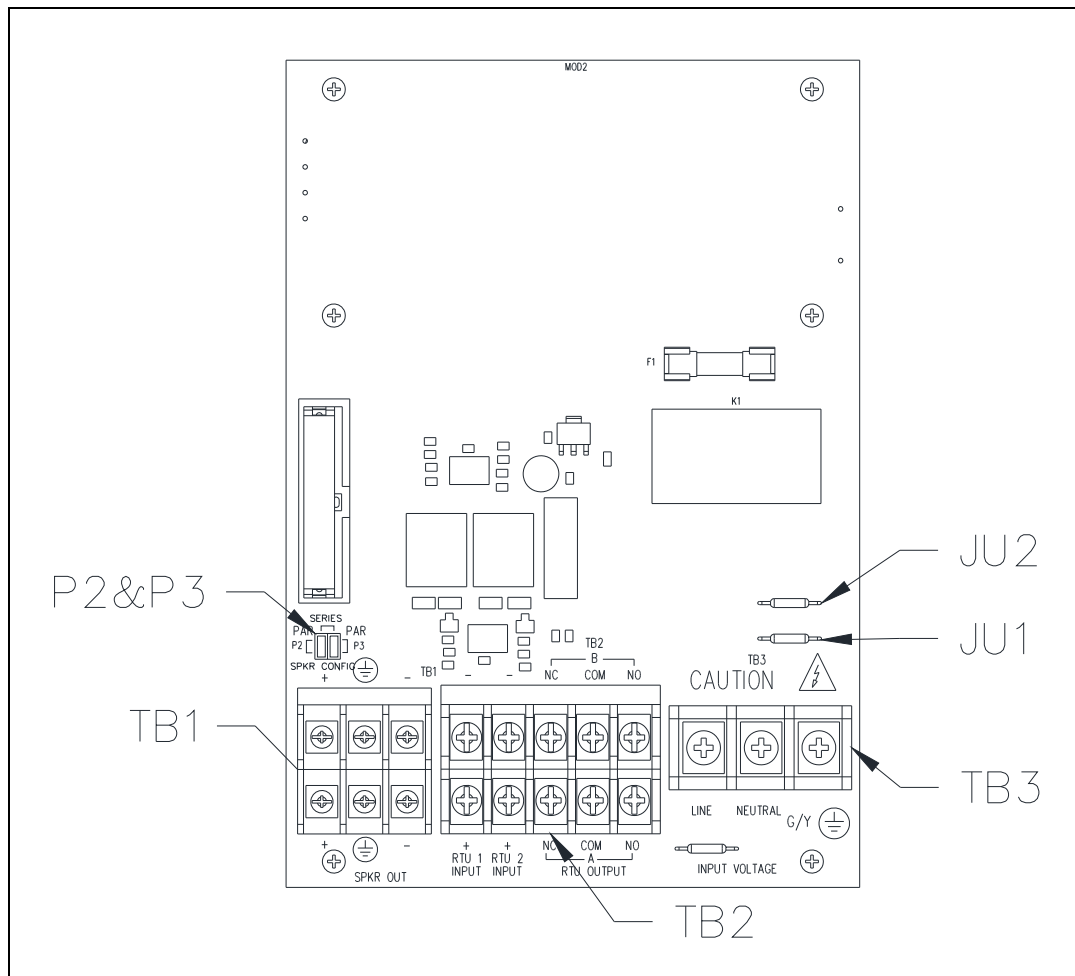
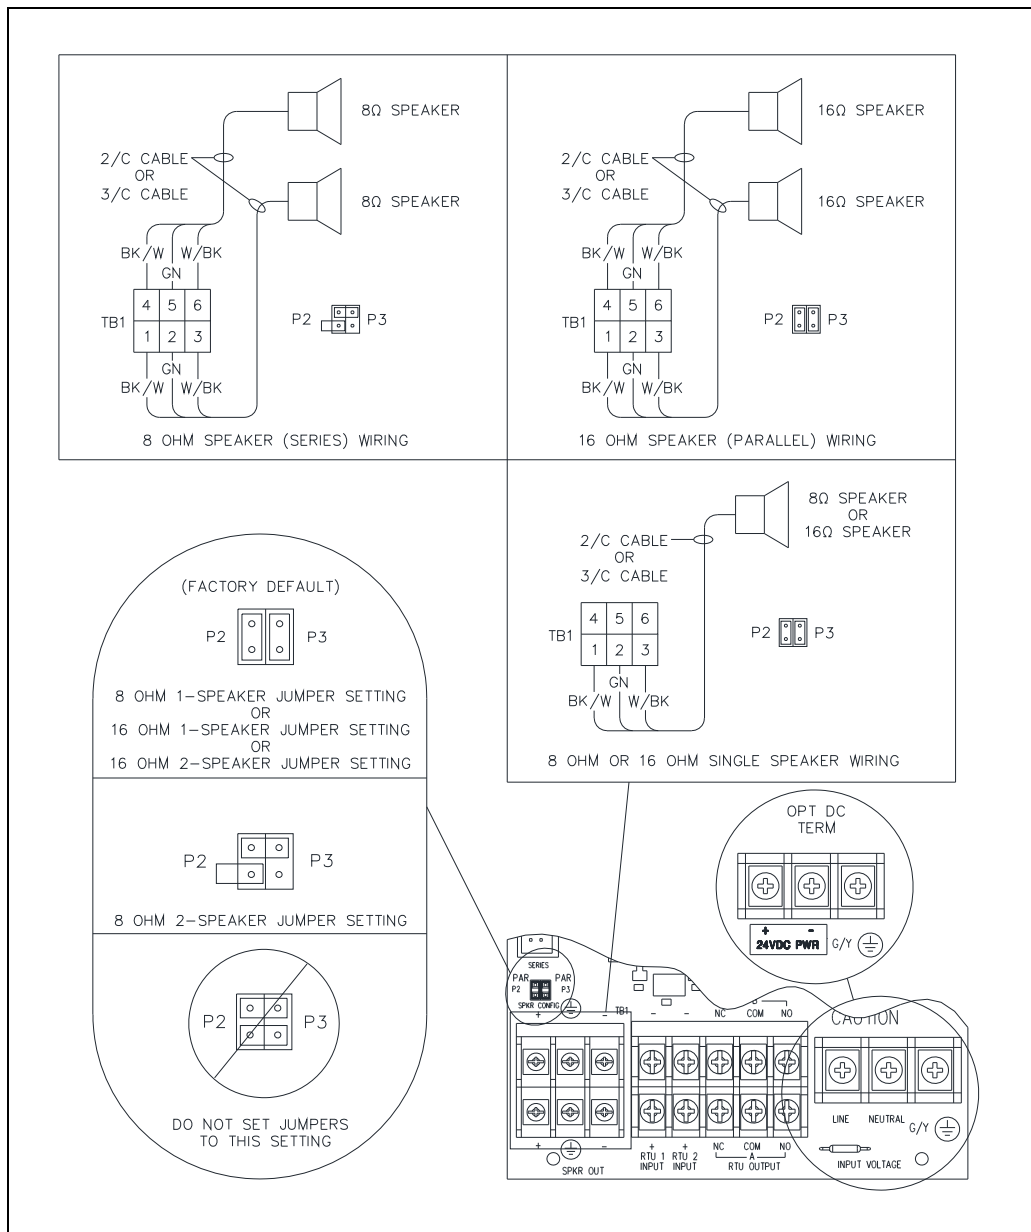
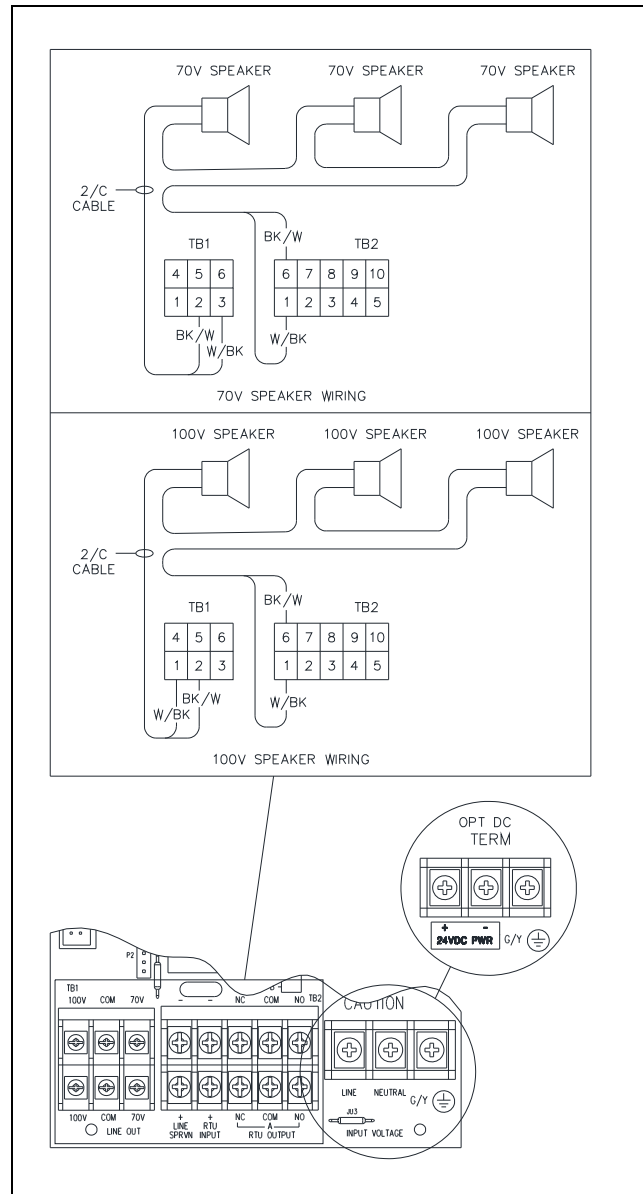
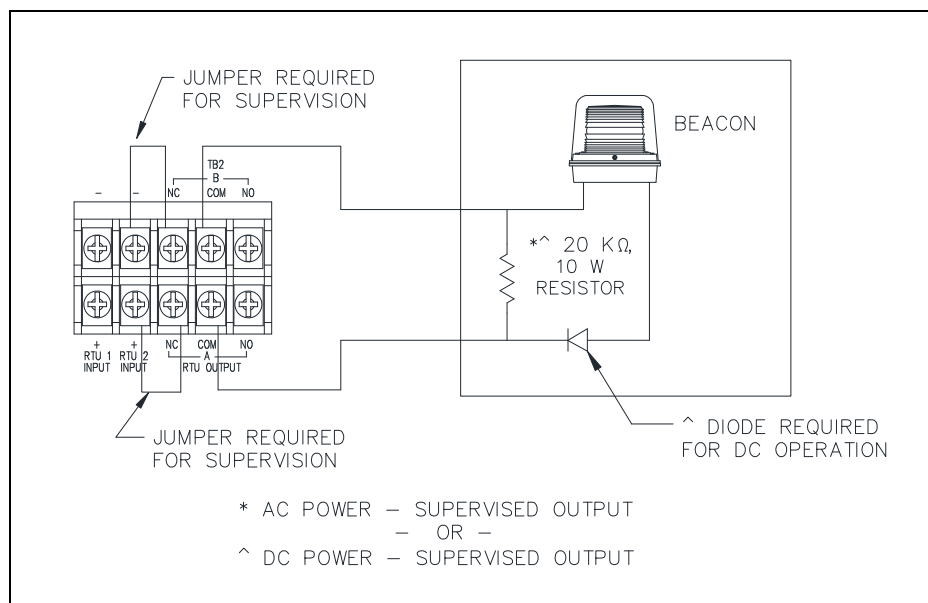

Figure 4. SP2 Standard Termination PCBA
Figure 5. 8/16-ohm Speaker Impedance Configuration and AC/DC Termination at TB3
Figure 6. 70 V/100 V Termination Board Wiring
Figure 8. Supervised Output Wiring—TB2
7. Configure the speaker jumpers; P2 and P3, for the appropriate impedance for use with 8-ohm or 16-ohm speakers (see Figure 4 and Figure 5).
The optional 70V/100V Speaker Line Monitoring PCBA replaces the standard termination board and provides for connection of 70-volt and/or 100-volt speakers to the SP2 Station. Terminal block TB1 provides termination for the station’s speaker loop(s). All speakers must be wired in parallel. One speaker loop can be monitored by terminating the return cable to the LINE SPRVN terminals on TB2 (see Figure 6 and Table 2).
The standard Termination PCBA contains two auxiliary RTU inputs. The optional 70V/100V termination board provides for speaker line monitoring and is equipped with just one auxiliary RTU input. These inputs are terminated at terminal block TB2 (see Figure 5 or Figure 6).
Two Form “C” contacts are provided to power a beacon (see Figure 8). These outputs can be reconfigured for dry contact use by removing jumpers JU1 and JU2. Terminations for these outputs are provided at terminal board TB2 on the Termination PCBA (see Figure 5 or Figure 6).
5. Install a 20-kilohm 10-watt resistor across the terminals of the beacon cable (see Figure 8).
The ac or optional dc power supply is mounted in the Zone 2/22 enclosure. The termination PCBAs include terminal block TB3 for connecting the local power source to the station (see Figure 5 or Figure 6):